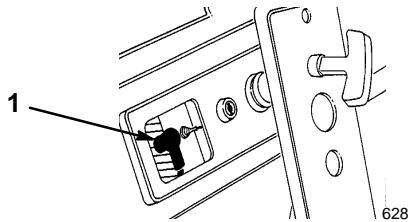

Figure 20
- Pull the wire off the spark plug and remove the spark plug (Fig. 20).